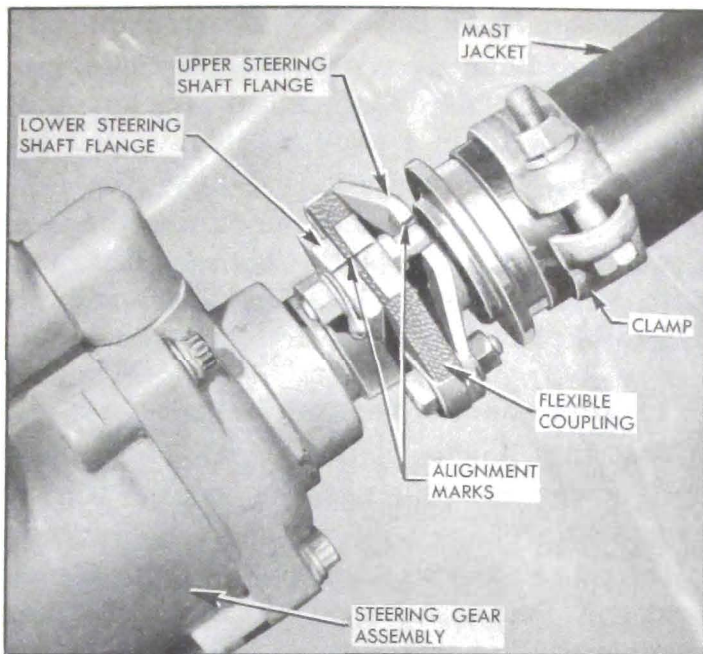

Figure 8-17—Marking Flexible Coupling
3. Mark upper and lower steering shaft flanges for correct assembly. Then disconnect the flexible coupling. See figure 8-17.